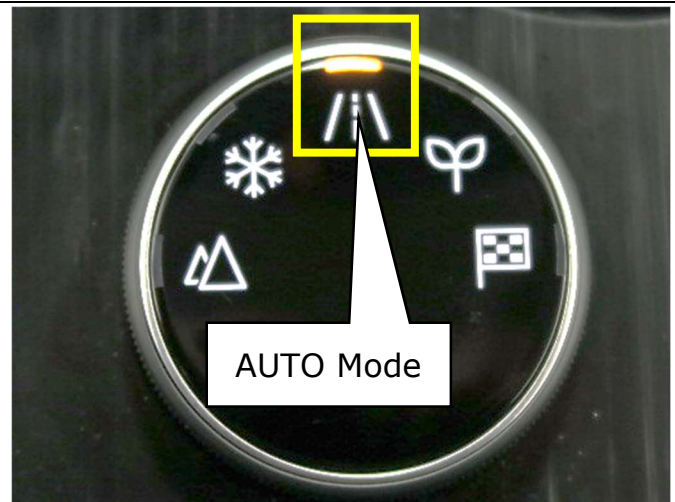

Figure 1
3. Verify the AWD selector is in AUTO mode. (Figure 1)